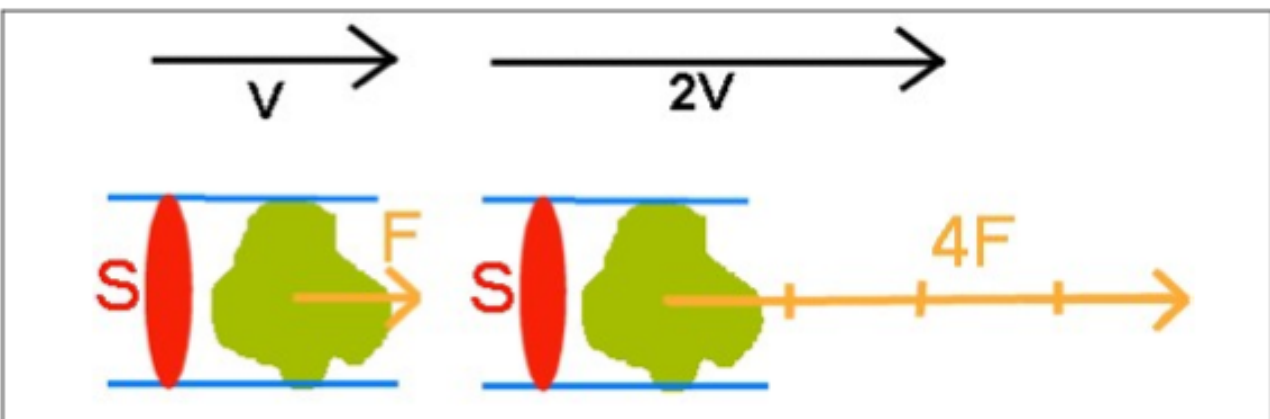

Figure A11: For an identical surface, if the wind speed (V) doubles, the drag (F) experienced by the object then quadruples ($4F$) in the higher wind.
(2) Wind Speed: For the variations in wind speed, the effect is a less simple. The relationship between wind speed and drag is not linear. In other words, if the speed increases, drag increases much more. More specifically, the drag increases in proportion to the *square* of the speed. See Figure A11. More concretely, if the wind speed (air flow) exerted on the object increases by a factor of 2, the drag is multiplied by 2^2 (2 squared) = 4. **Question 015.**